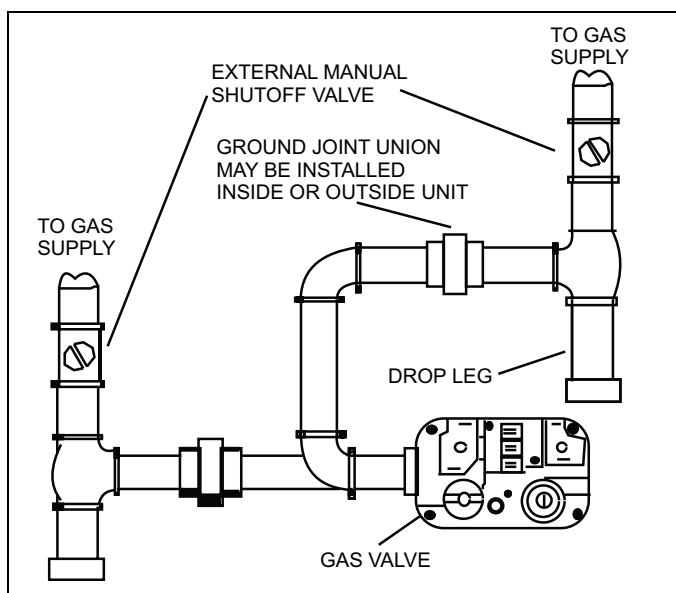

FIGURE 1: Gas Piping
1. Turn off gas at external manual shutoff valve. See Figure 1.